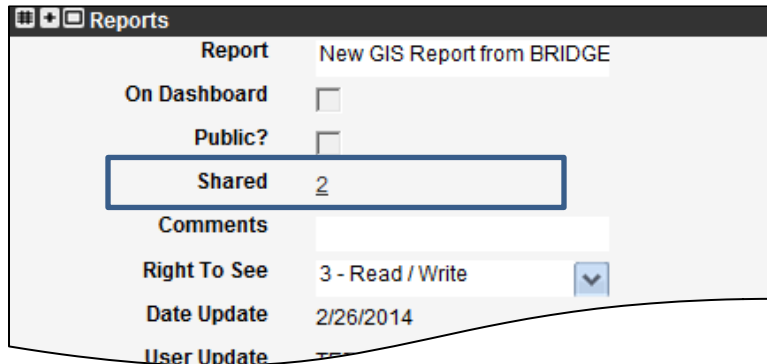

Figure 3-3. Report Sharing Status Example
**TIP!** The report details now show the **Shared** status (Figure 3-3) as a blank field if not the report is not shared, or as a value and hyperlink for showing the shared users.